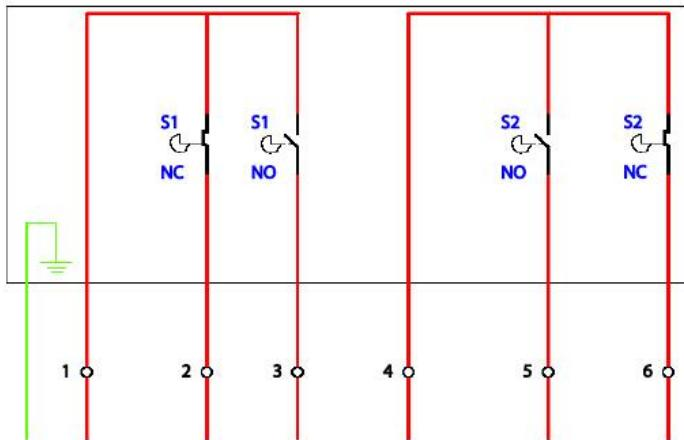

Figure 3.9.3.i End Switch Wiring Schematic
5. Wire the ESPU according to the Valve Proving the End Limit Switch will be required to provide. See the End Limit Switch wiring diagram in Figure 3.9.3.i
End Limit Switches are mounted on the end of bespoke valves (please contact Autoflame regarding bespoke valve manufacture) which are attached to the air and fuel valve and commissioned depending on the use of the End Limit Switches. An End Limit Switch comprises of two switches, as shown in Figure 3.9.3.i. Each comprises of an Earth and 6 connections to be wired as appropriate. The switches S1 and S2 are setup as per on site specification. These are then wired into either or both of the terminals 80, the start position interlock, and terminal 81 purge interlock.
终端限位开关被安装在定制阀门的端部（关于定制阀门的制造，请联系Autoflame）。根据终端限位开关的使用情况，定制阀门被安装在空气阀门以及燃料阀门上并且已经过调试。一个终端限位开关由两个开关组成（如图3.9.3.i所示），每个单开关由一根地线和6个接线接口组成。开关S1和S2的设置要根据现场规范，然后开关S1和S2将被接入终端80（启动位置连锁）和终端81（吹扫连锁）中的一个或者两个。